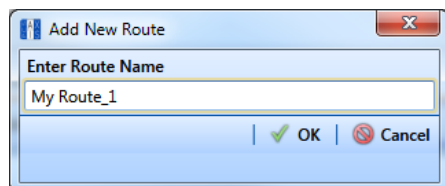

Figure 8-7. Add New Route
- 3 If this is the first route to be created, the *Add New Route* dialog box opens. Type a name for the new route in the field **Enter Route Name**. Then click **OK** (Figure 8-7).